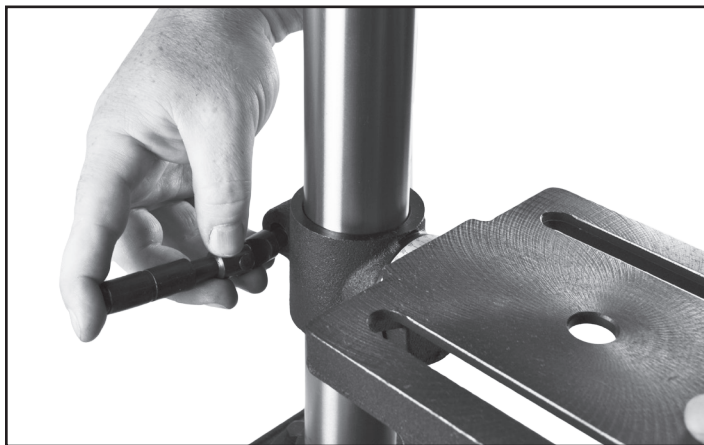

FIG. 2
2. If not pre-installed at the factory, install the table lock handle through the unthreaded hole on the left of the table support casting. The handle should engage the thread on the right side of the table support casting. FIG. 2.